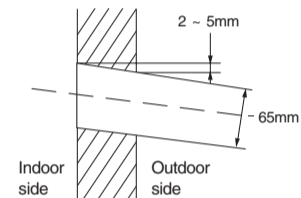

Fig. 2-1
2.1 Make a hole on the wall as shown in Fig. 2-1.
- The hole on the wall should be made with some inclination like Fig. 2-1 to keep the smooth flow of condensed water.